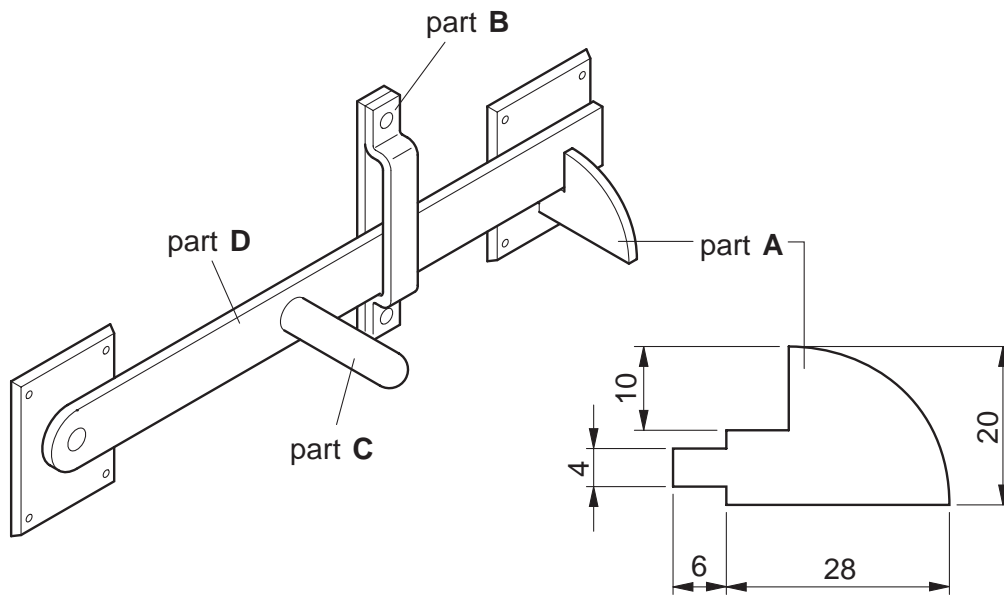

Fig. 2
- 2 Fig. 2 shows a gate latch which is to be made in a school workshop.